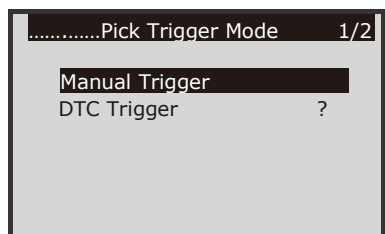

Figure 5.21
4. Use the **Up/Down** scroll button to select a trigger mode and press the **OK** button. (See **Figure 5.21**)